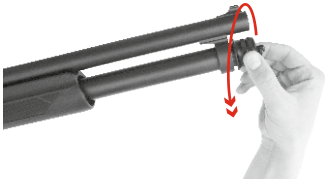

Fig.17
1. Remove the magazine cap (Fig.17).